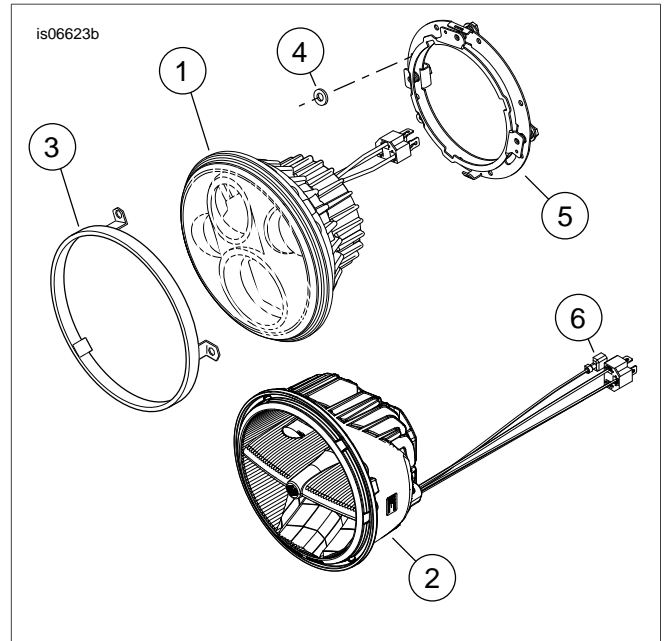

Figure 5. Service Parts: LED Headlamp Kit
See Figure 5 and Table 1.
- a. **Domestic Models:** See Figure 5. The position lamp connector (6) is not used.